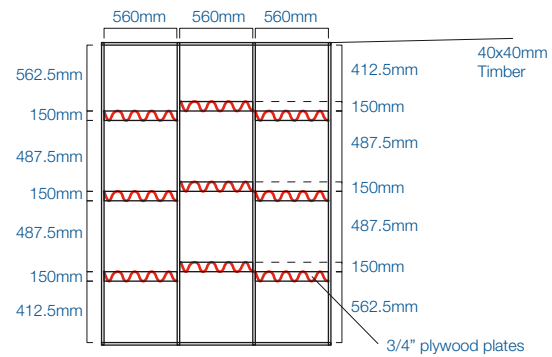

Fig A4 Lining an uneven wall with timber framework
- Consider lining uneven walls with 19mm treated plywood or construct timber frame work, *refer to fig A4.*
- 1 If needed, construct a timber stud frame as shown in *fig A4*. We recommend the use of 150mm ply patress to provide maximum bond area.